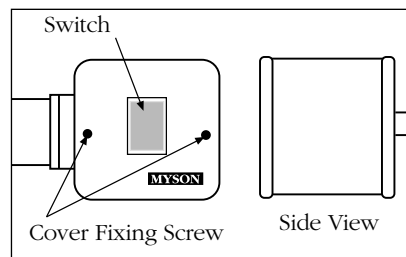

fig 4: Field Wiring Component
- C. Fasten cover plate of Wire Encasement Kit (fig 4) to wall box with screws provided. Complete mounting of Towel Warmer securely to wall with screws provided.